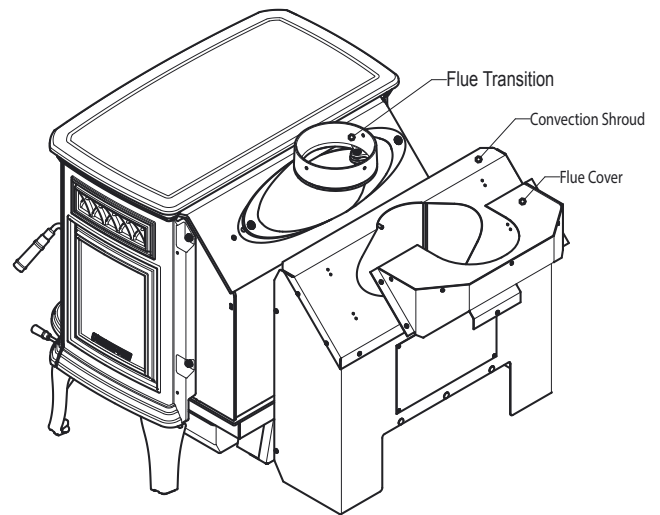

Figure 18.1
The flue collar is reversible for either a top or rear venting installation. The appliance is shipped with the flue collar in the top vent position (**Figure 18.1**).
1. Remove flue cover from convection shroud (5 Phillips screws) as shown in **Figure 18.1**.
2. Remove convection shroud from appliance (4 Phillips screws) as shown in **Figure 18.1**.
3. Remove, rotate 180 degrees and install cast flue transition in the horizontal position as shown in **Figures 18.1 and 18.2**.